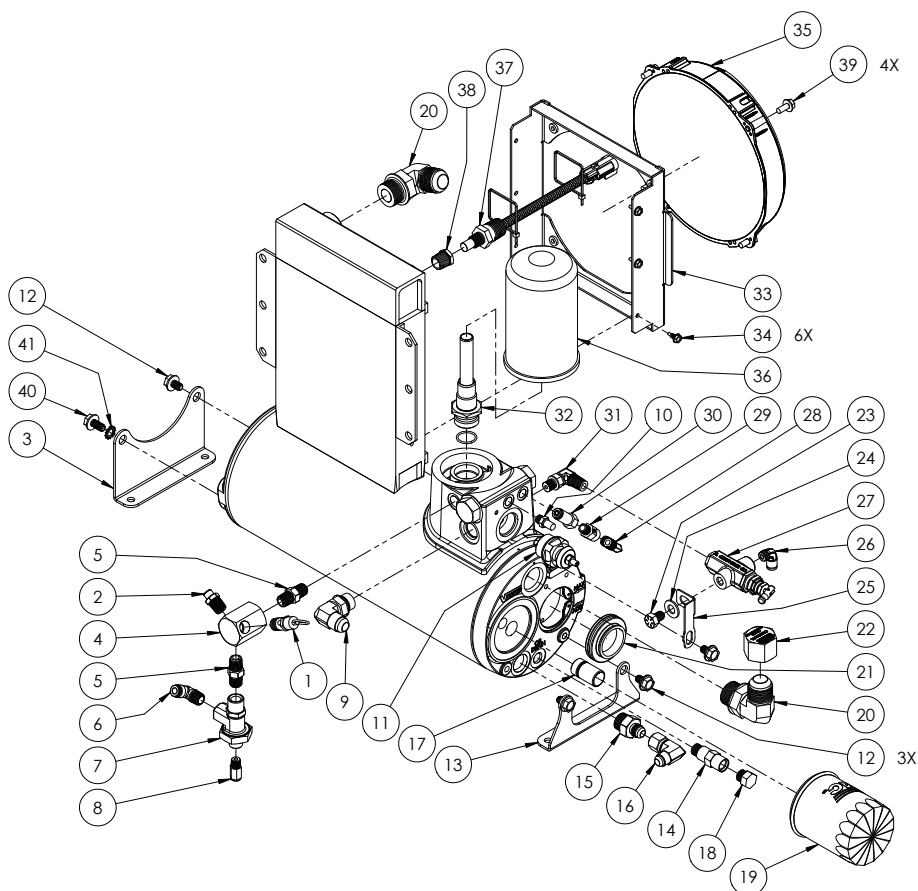

Figure 80 — WHASP Tank
4. WHASP Tank, 9240014 (Figure 80 on page 108)